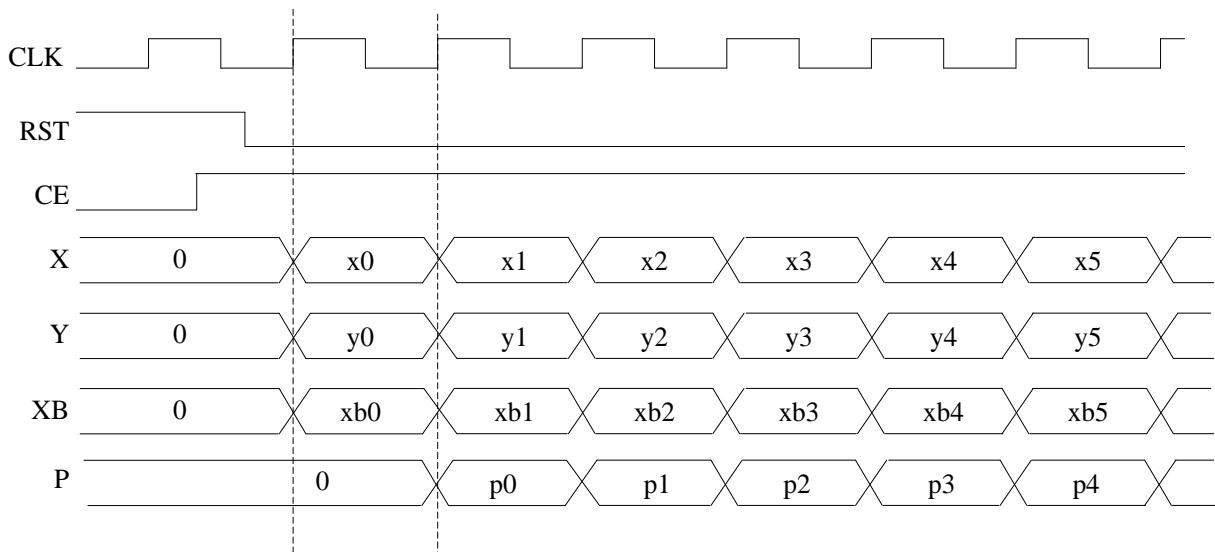

Figure 2-7 Typical Timing Diagram for Multiplication Mode
**Figure 2-7** shows the typical timing of multiplication mode, where  $P=Y \times (X+XB)$ . When only the one-stage register is enabled, the P-port calculation result corresponding to the X-port and Y-port input data will be output on the next rising edge of the clock.